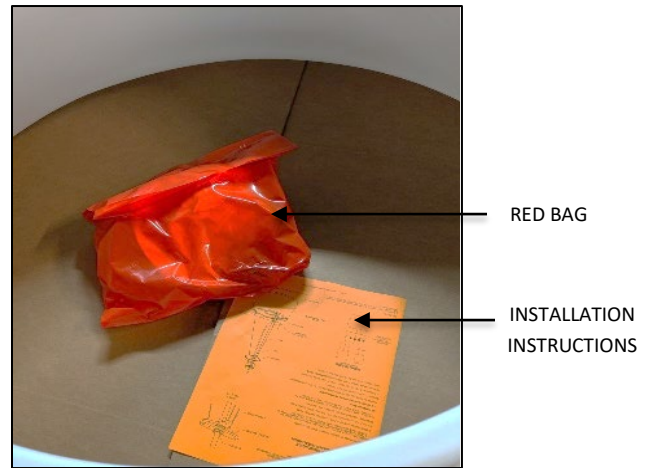

FIG.3 RED BAG AND
2. INSTALLATION INSTRUCTIONS (shown in FIG. 3) - Please completely read the install instructions before starting installation.
3. RED BAG (shown in FIG. 3)